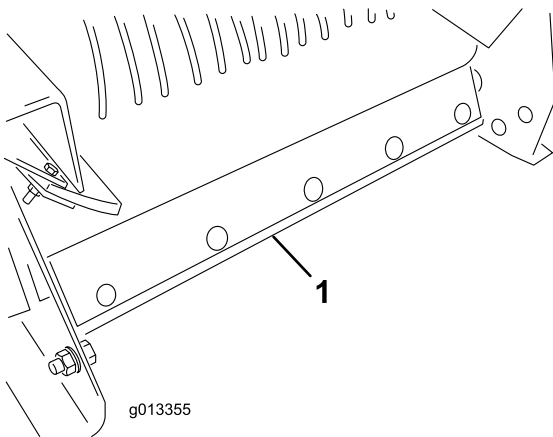

Figure 59
6. Remove the belt cleaning scraper assembly from the rear of the machine (Figure 59).